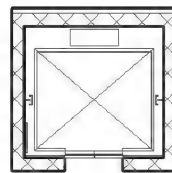

FIGURE 11-1.6 Walls deleted
13. Delete the walls, per **Figure 11-1.6**, for Levels 2 and 3.